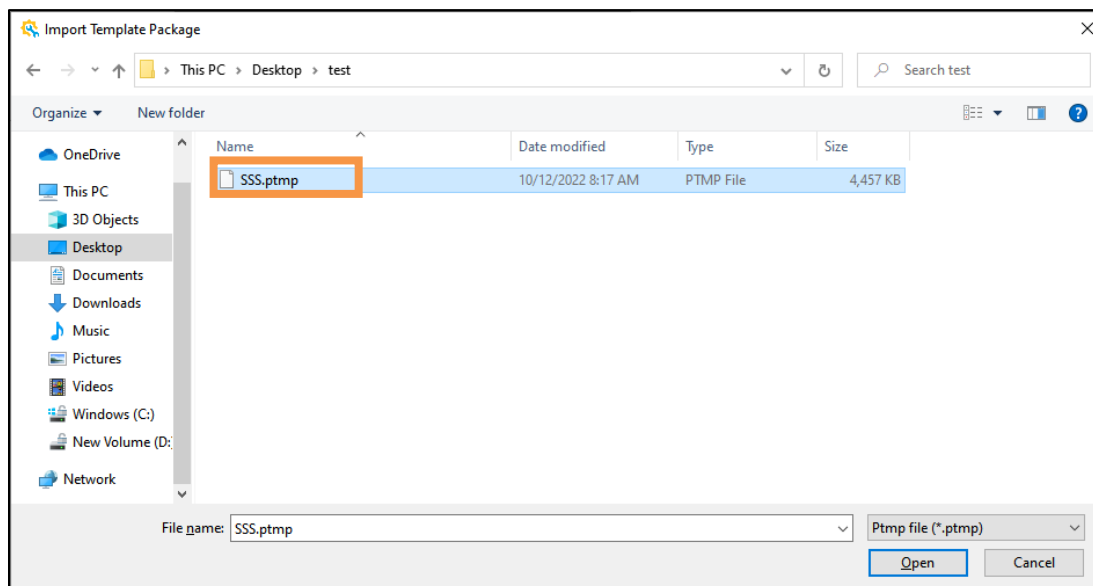

Figure 2.183. Import a .ptmp File
1. Click **Import** (Figure 2.182), and then choose the desired .ptmp file (Figure 2.183).